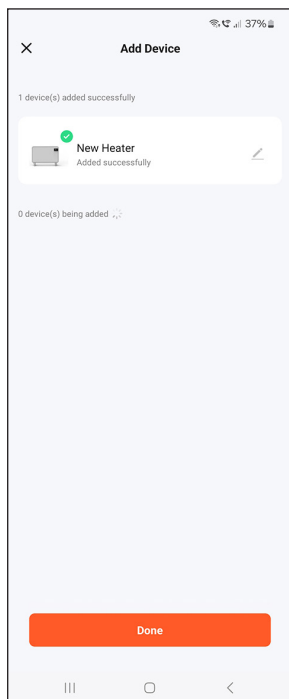

fig. 10
- The app will confirm when the heater has been added successfully (see fig. 10)